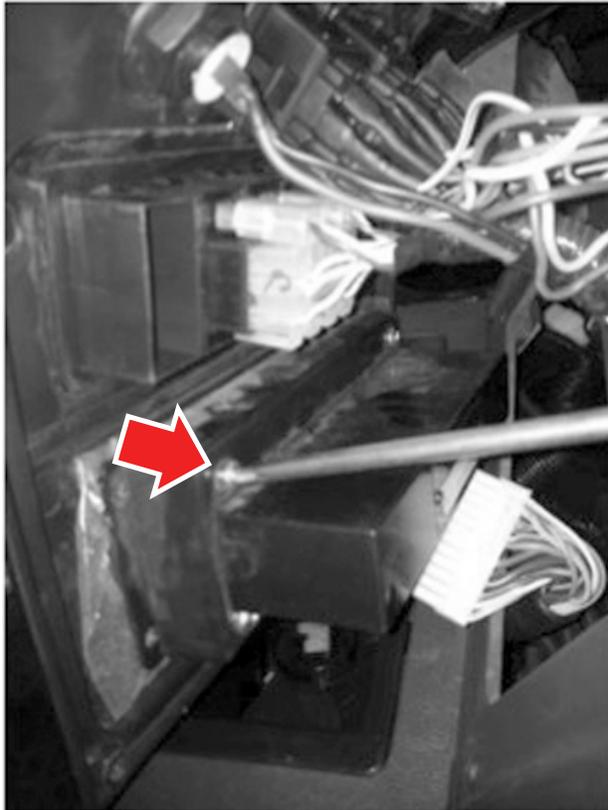

Figure 29-1
1. Remove the four screws affixing the clamp bracket to the rear of the HVAC controller (see *Figure 29-1*).